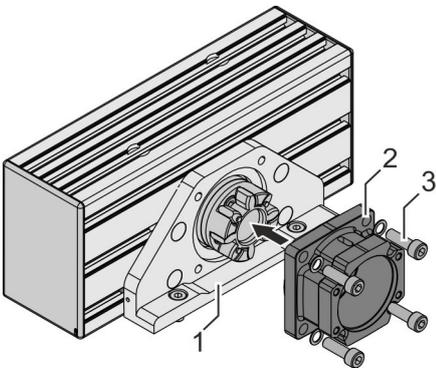

Fig. 33: Assembling the coupling housing
**6.** Place the coupling housing (Fig. 33/2) on the pulley housing (Fig. 33/1).
**7.** Tighten 4 screws (Fig. 33/3) alternating diagonally: